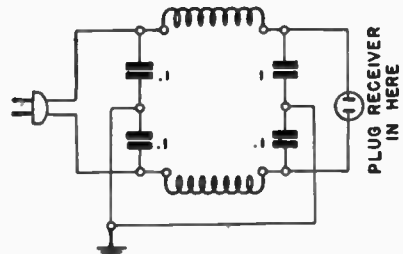

Fig. 210
5. A line filter helps once in a while. (See Fig. 210.)